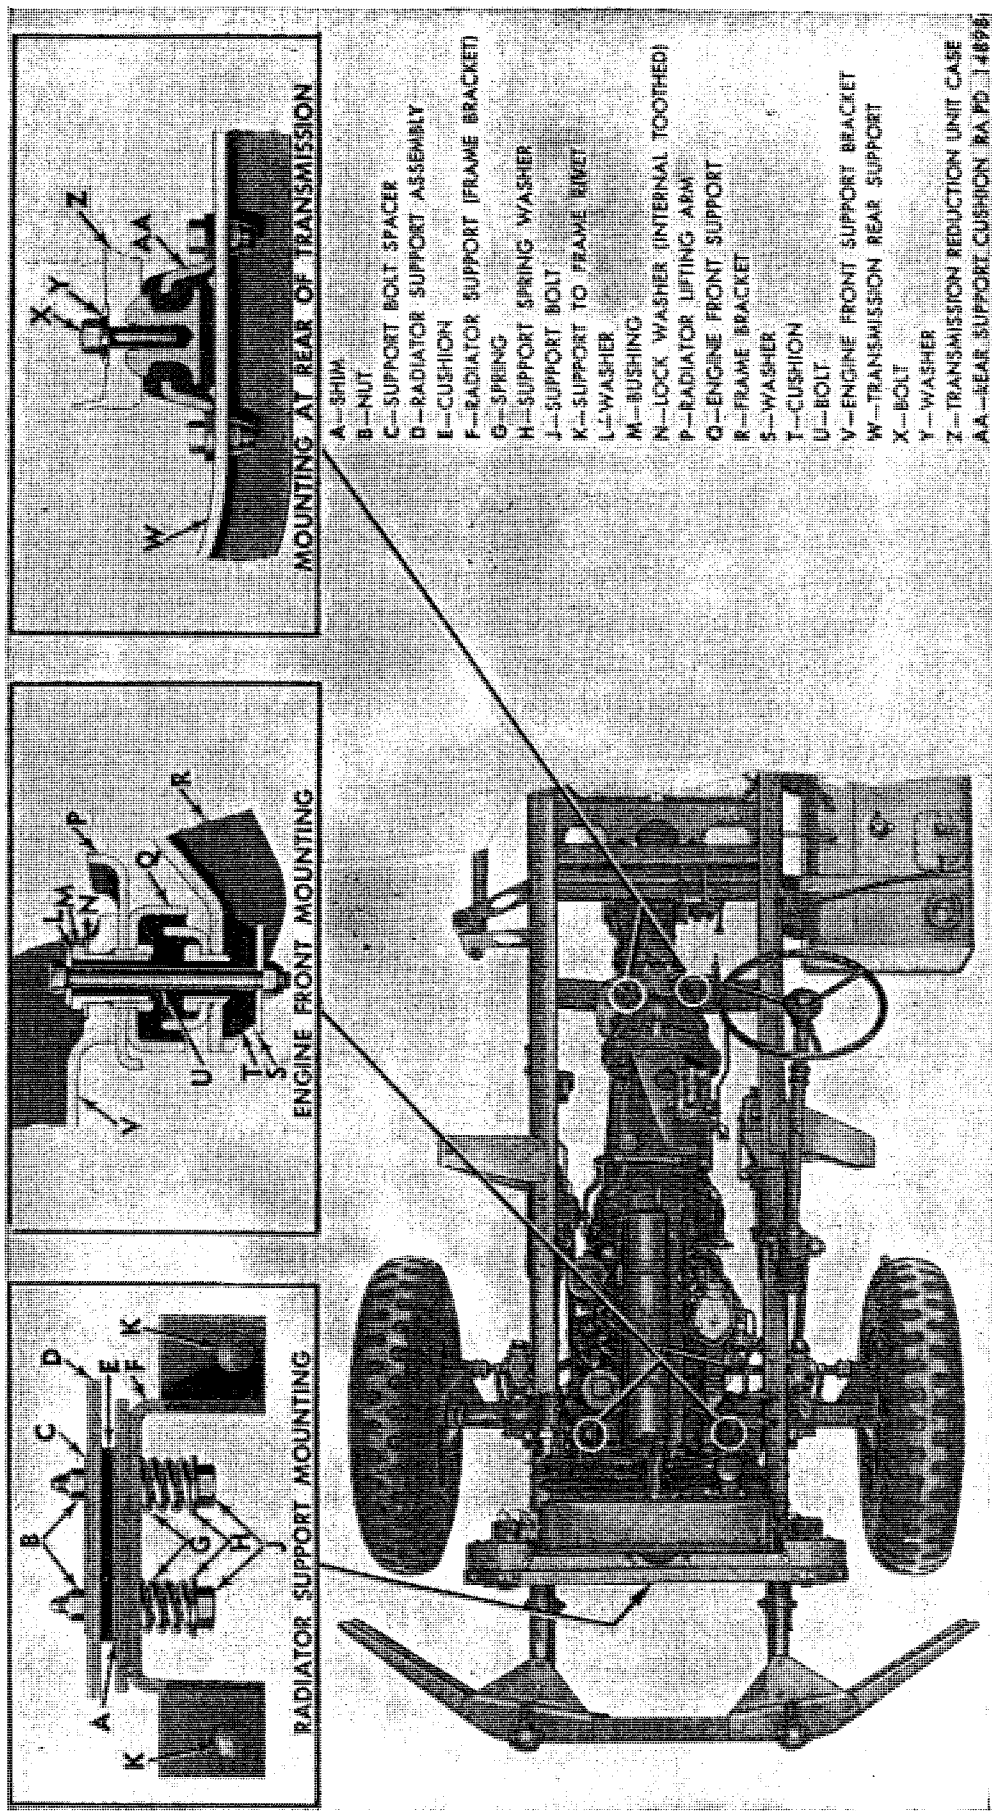
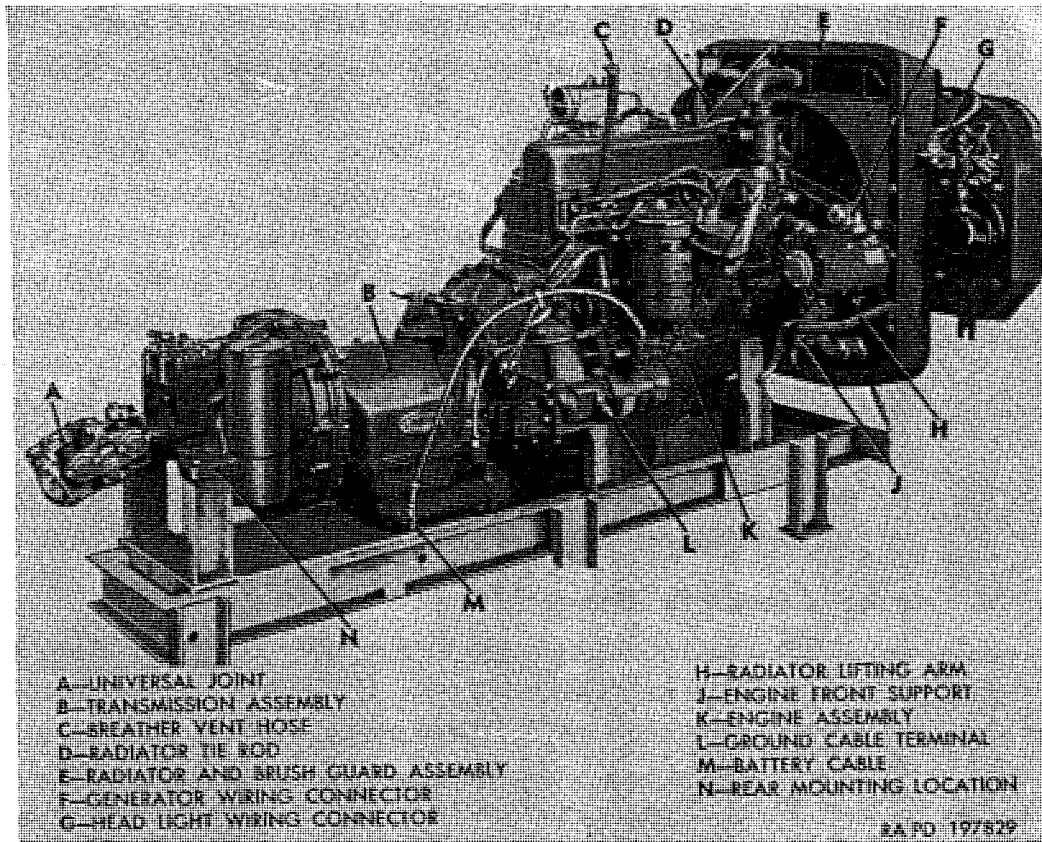

Figure 108. Power plant mountings.
Figure 111. Power plant assembly removed from vehicle.
(fig. 108)
b. Operations at Front of Vehicle. Remove two fender-to-side-baffle bolts (F) which attach brush guard and radiator side baffles to each front fender. Loosen but do not remove two baffle-to-fender skirt bolts (H).
- (1) Attach radiator tie rod (D, fig. 111) at special stud at left side of cylinder head. Tie rod is clipped to radiator support for use only when removing power plant assembly.
- (2) Disconnect headlight wiring harness connector (M) at right side of radiator, and generator wiring harness connector (N) at generator, using spanner wrench.
- (3) On gasoline tank trucks M217 and water tank trucks M222, disconnect Mechanovac governor flexible drive shaft at governor speed unit attached to flywheel housing.
- (4) Remove four bolts connecting transmission-to-transfer universal joint flanges (V).
- (5) Remove clamp (J) which connects front and rear exhaust pipes.
- (6) Remove nuts from bolts at engine front supports (G). Remove large plain washer and cushion from lower end of each mounting bolt.
- (7) Remove two bolts from radiator support mounting (fig. 108). A spring and a washer are installed on each bolt.
a. General. The complete power plant assembly (fig. 111) must be removed from vehicle as an assembly (pars. 116 and 117), after which engine assembly may be removed as directed in this paragraph.
Note. Two-piece flywheel housing is part of engine assembly, and both halves must remain with engine on which they were originally installed. These halves include engine serial number as illustrated in figure 208. The key letters noted in parentheses are in figure 108, except where otherwise indicated.
- (1) Loosen radiator hose clamps and twist hoses to loosen from radiator and engine.
- (2) Remove nut holding radiator tie rod to cylinder head stud. Clip tie rod (D, fig. 111) in place at radiator support.
- (3) Lift radiator and brush guard assembly off radiator lifting arms and remove from engine.
d. Engine Front Support Removal (fig. 108). Remove bushing (M) and lockwasher at each front mounting bracket, and remove engine front supports (Q) and radiator lifting arms (P). Swing air compressor toward engine to provide sufficient clearance for removing bushing (M) and bolt (U).
a. General. A complete power plant composed of engine assembly, mountings, transmission, and radiator assembly must be installed as a unit (fig. 111).
- (1) Remove flywheel housing rear half from engine; then install housing rear half and torus members on transmission (par. 205c).
- (2) Install transmission on engine (par. 205d).
c. Engine Front Support Installation (fig. 108).
- (1) Locate engine left front support (Q) and radiator lifting arm (P) at engine front support bracket; then thread bushing (M) with new 1-inch internal-teeth lockwasher through support bracket and into support assembly.
- (1) With upper and lower radiator hose installed on engine, lift radiator support and brush guard assembly into position at front of engine. Engage lifting brackets on radiator support with lifting arms on engine; radiator hose must fit onto radiator inlet and outlet.
- (2) Position radiator tie rod (D, fig. 111) at cylinder head special stud and install stud nut.
- (3) Position radiator hose clamps, but do not tighten clamps until power plant is installed in vehicle.
- (2) Carefully lower power plant into position as it is moved rearward, taking care to avoid damaging lines, wiring, and cables. Fit front exhaust pipe into rear pipe, using new seal (par. 138c). Do not rest power plant solidly on mountings until shims and cushion (A and E, fig. 108) are in position on bracket. Boltholes in bracket, cushion, and shims must be alined with holes in radiator support. Insert special $\frac{3}{8}$ -24 x $4\frac{1}{2}$ mounting bolt and large $1\frac{5}{32}$ -inch plain washer through engine right front mounting. Detach radiator tie rod (H, fig. 112) from cylinder head special stud and clip tie rod in place at radiator support.
- (1) Aline holes in universal joint flanges (V) at rear of transmission and install four $\frac{1}{2}$ -20 x $1\frac{3}{8}$ bolts with $\frac{1}{2}$ -20 safety nuts. Tighten nuts to 48 to 64 pound-feet torque.
- (2) Assemble cushions, flat washers, and nuts on engine front mounting bolts (U, fig. 108) and tighten nuts to 20 to 27 pound-feet torque.